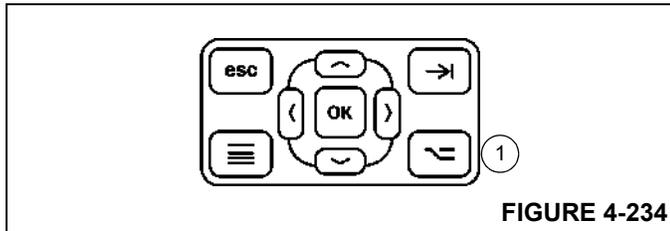

FIGURE 4-234
If several fault codes are active, use the Jog Dial or Arrow Buttons on the Navigation Control Pad (Figure 4-234) to select the arrow at the top or bottom of the screen to scroll through the codes.
Additional information about the fault can be accessed by first highlighting a fault code, then pressing the Additional Information or lower right Button, the ALT Key, (1), (Figure 4-234) on the ODM Navigation Control Pad.
2. Press the ALT Key(1), (Figure 4-234) on the Display to show additional crane fault information.